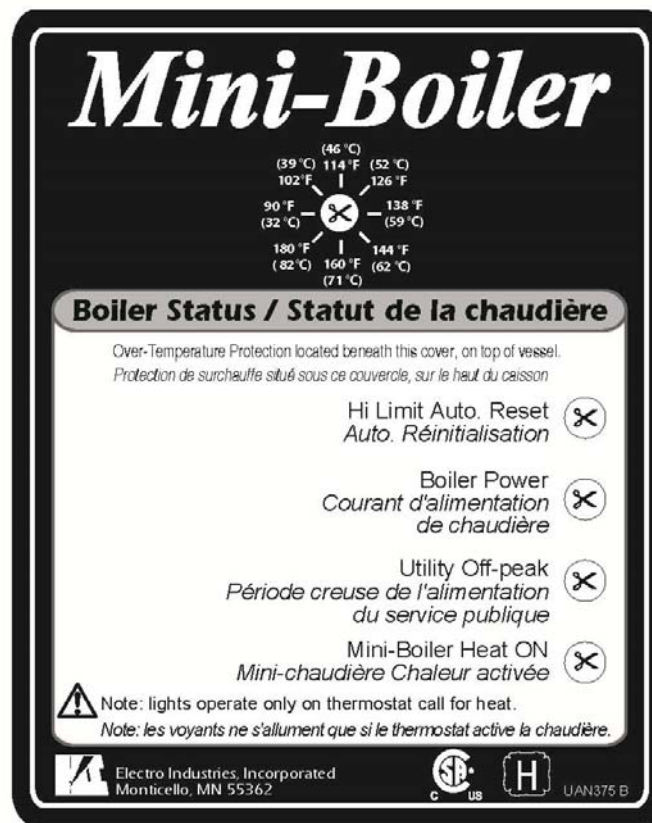

Figure 1
1. Indicator lights – there is a set of four indicator lights on the front cover. Figure 1 is a reproduction of the front decal giving definition and information for using these indicator lights.